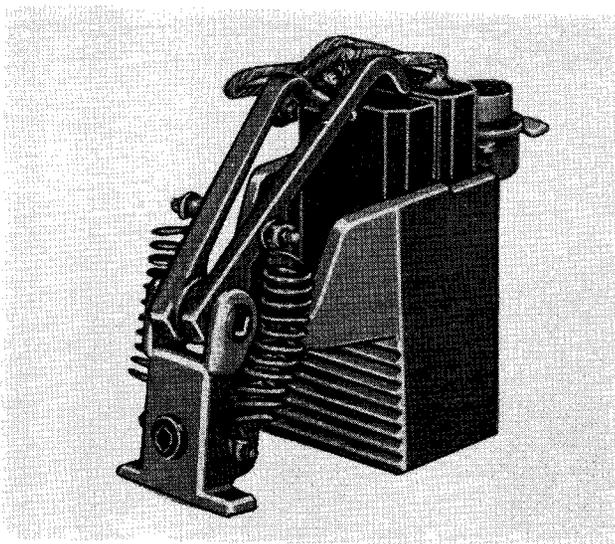

FIG. 3. "UNIFORCE" Brushholder
**Brushholders.** These machines are fitted with the "UNIFORCE" brushholder. The "UNIFORCE" brushholder maintains very nearly constant pressure during the life of the brush. It requires no adjustment to compensate for brush wear. (See Fig. 3.)